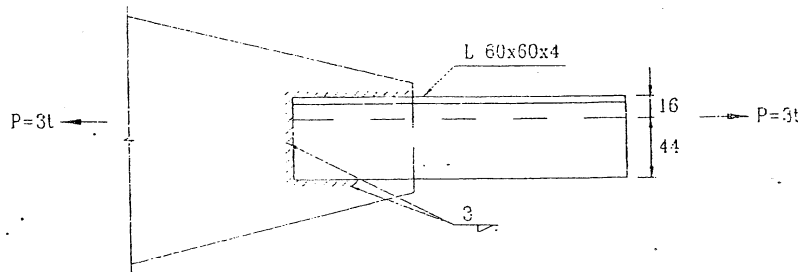

Figure 1
2. Design the welded connection shown in Figure 1 for the applied load of 3 t. Consider the eccentricity of the applied load. Steel used is St. 37 of yield stress equals 2.40 t/cm^2 .